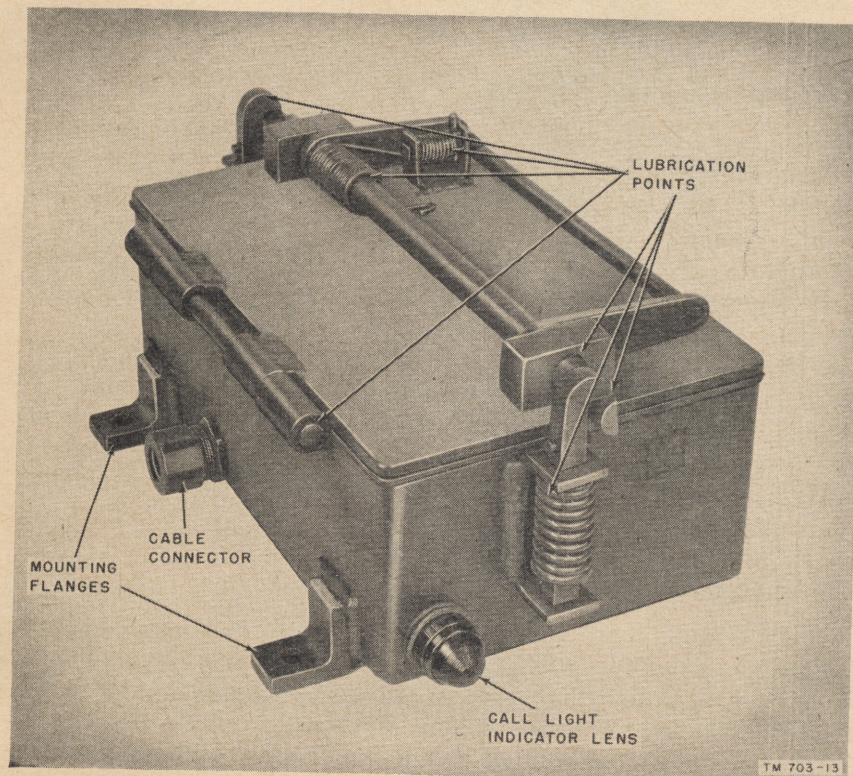

Figure 15. External Interphone Box BC-1362, lubrication points.
- (1) Clean and lubricate the latch spring assembly of External Interphone Box BC-1362 with Grease, Lubricating, Special AXS 637 (GL). The box is exposed to the elements, and the action of sun and rain will rust the assembly. Refer to figure 15 for the lubrication points illustrated.
- (2) Apply sealing compound to all exposed connectors where needed.
- (3) Inspect Handset H-22()/U cords for cut and frayed insulation. Check the cord plugs for looseness and broken shells.
- (4) Check the terminal board for cracks, dirt, corrosion, and loose connections. The dirt and corrosion on contacts and plugs may be removed with #0000 sandpaper and solvent (SD).